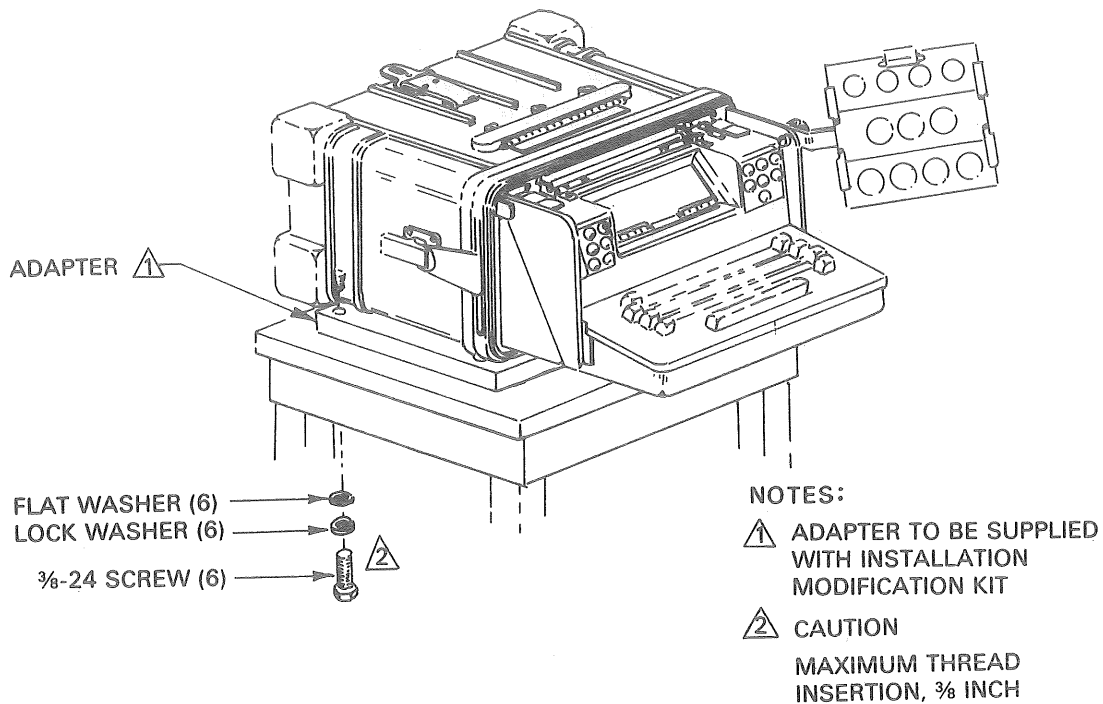

Figure 1. Terminal table mounted.
- c. Secure the terminal to the table as specified in figure 1.